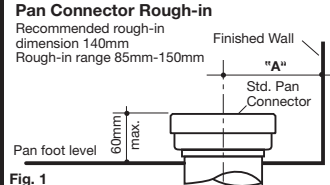
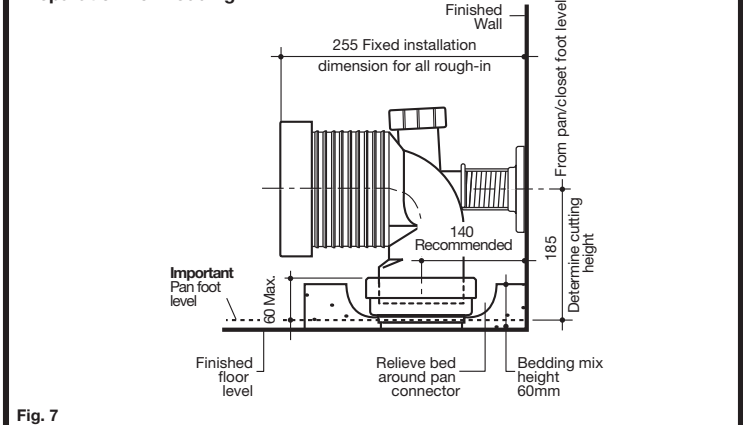
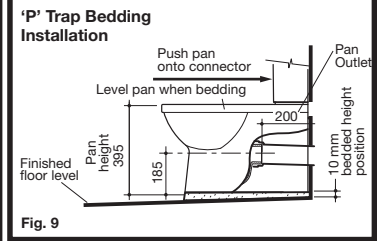

Fig. 1
Fig. 7
Fig. 9
The Wall Faced pan is universal for both 'S' and 'P'-Trap installations as detailed. The recommended set-out for 'S'-Trap installations is 140mm from the finished wall with set-out flexibility for existing soil pipe positions ranging from 85mm-150mm. It is important to position the pan collar 60mm Max. from the foot level of pan as detailed in **Fig.1**. (connector not supplied).
- 2- Determine set-out "A" of existing pan connector, as detailed in **Fig.1**. Set-out range 85mm-150mm. Recommended set-out 140mm, as detailed in **Fig. 7**. For 'P' trap installation, as detailed in **Fig. 9**.
- 3- Prepare bedding sand cement mixture 3:1 to depth of 60mm as detailed in **Fig. 7**. **Note:** Do not fill the foot of the pan with bedding mix or include lime or fast drying cement into the mix, these may cause cracking in the foot of the pan.